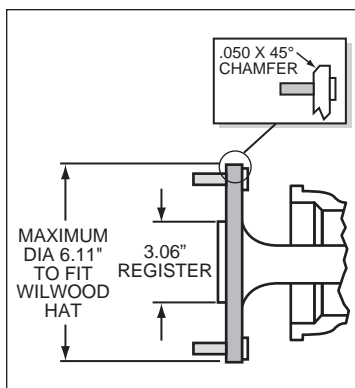

Figure 3. Axle Flange Maximum Dimension
- Maximum axle flange diameter must be no larger than 6.11" w/.050" x 45° chamfer, Figure 3.